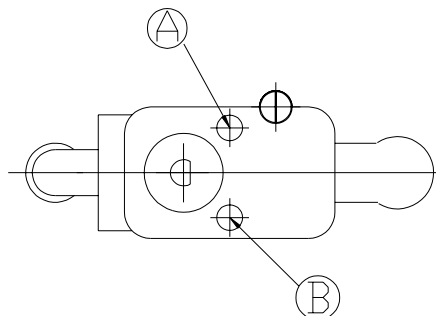

Figure 9: Thermostatic cock
- b) Loose the screws A & B (figure 9). Extract the cock cone and clean it